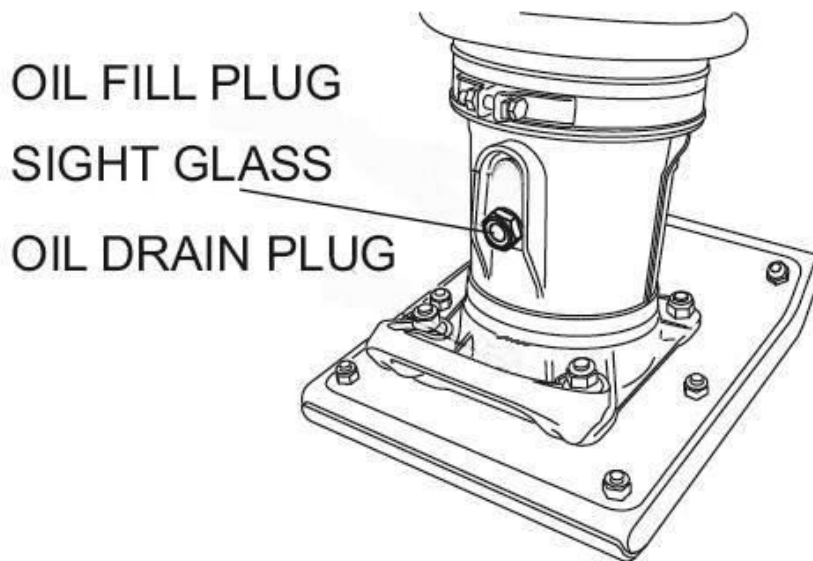

Fig 2
1. Check the oil level through the oil level sight glass (Figure 2) at the rear of the tamper foot.
2. If oil is not visible, add 10W-30 motor oil into the oil fill plug (Fig 2). The bath contains approximately 1.7 pints (800 cc.).